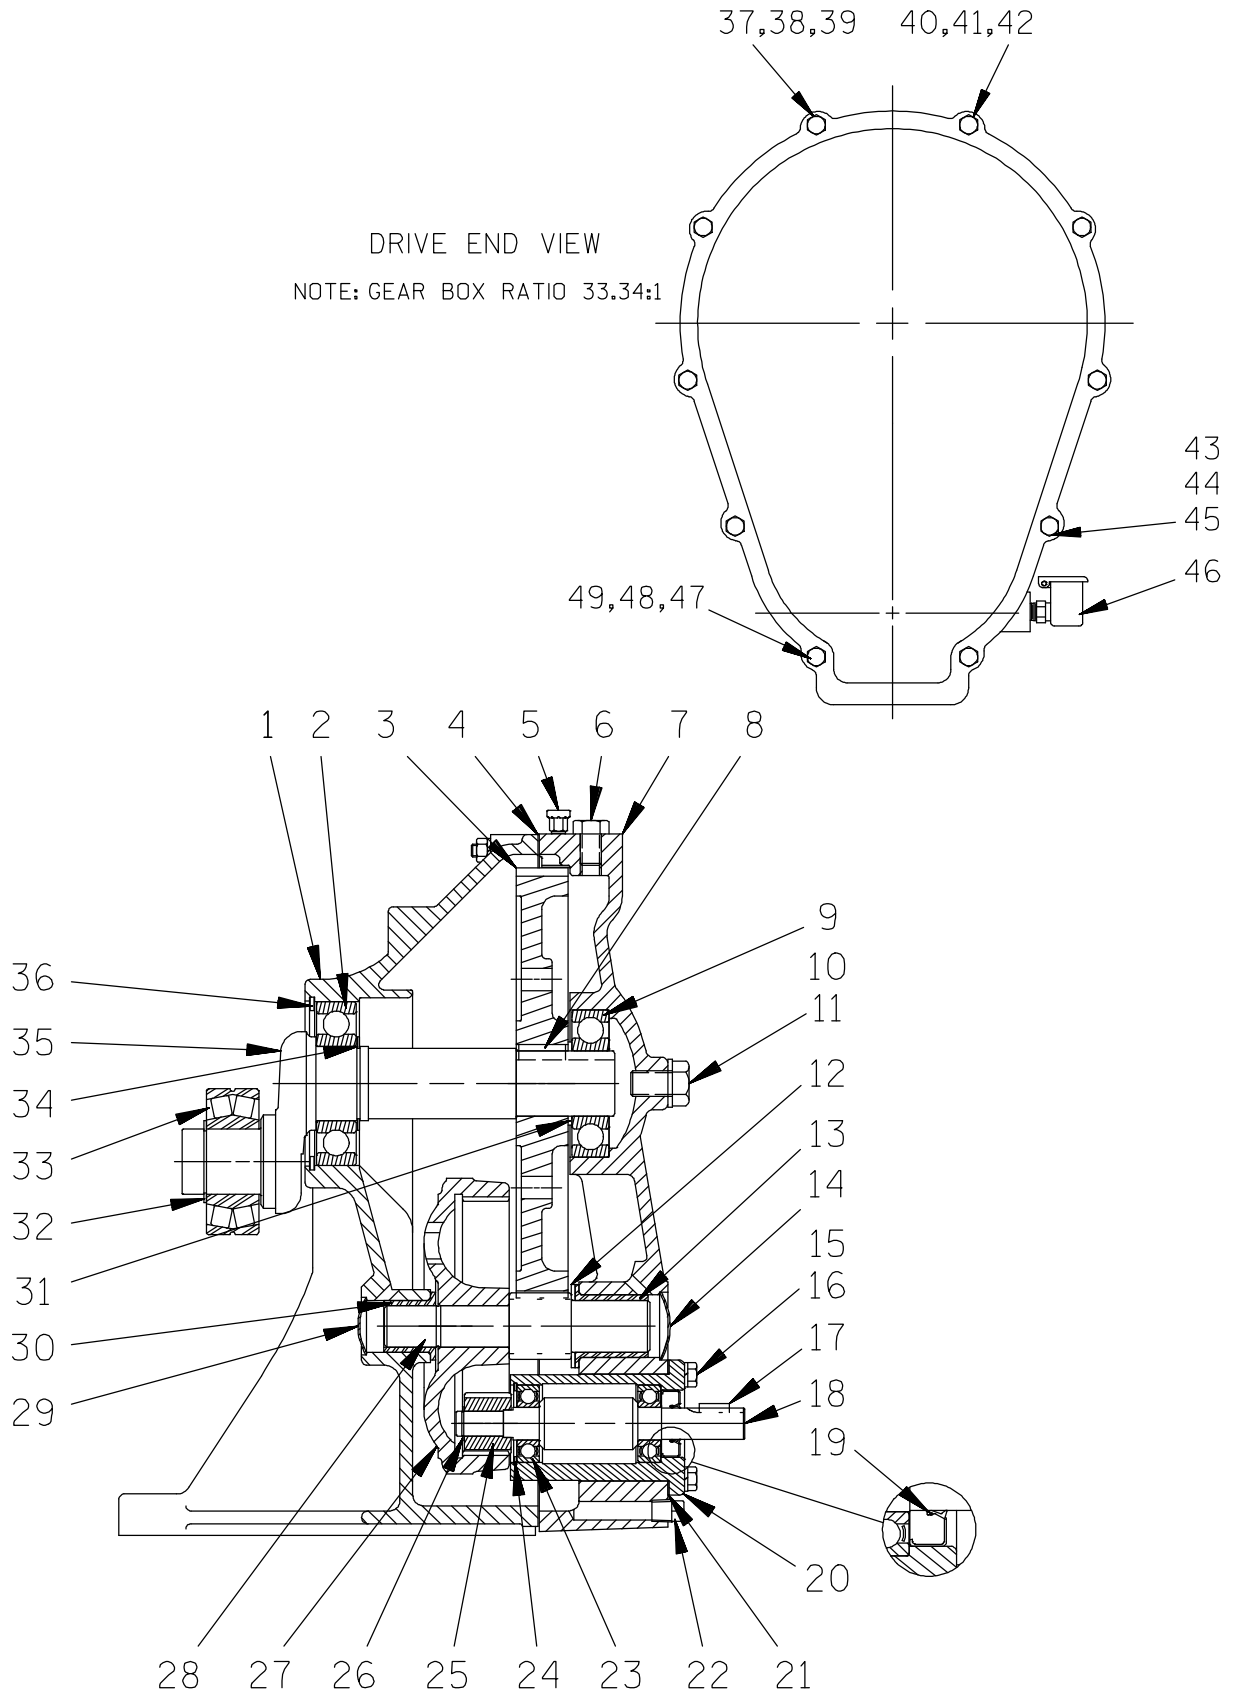

Figure 4. 44161-009 Gearbox Assembly
Loosen the hardware (not shown) and remove the end cap (24, Figure 1). Slide the bearing cap (1) off the crankshaft roller bearing (33, Figure 4), and remove the plunger rod assembly.
Disengage the hardware (16, 17, 18 and 19) and remove the coupling guard (4). Loosen the hardware securing the coupling (1). Separate the gearbox assembly from the coupling by pulling straight away. Remove the shaft key (17, Figure 4).
(Figure 4)